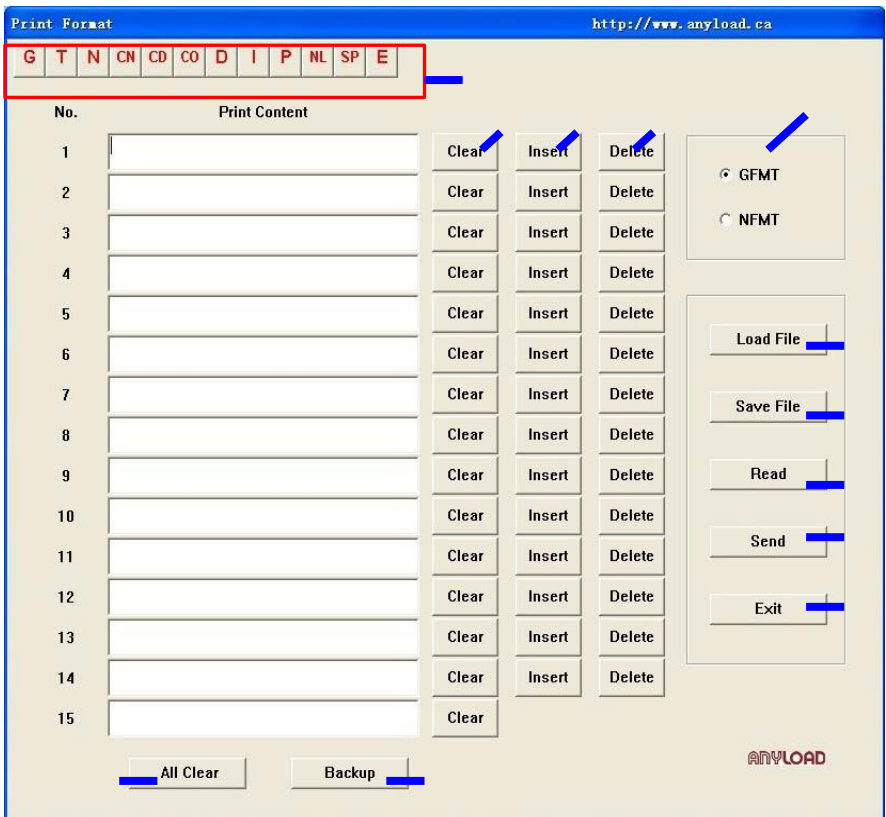

Figure 1.2.2 Set Print Format Interface
**Print Format** - Setting the print format. Click and will enter into the Print Format Interface (see figure 1.2.2).
### 1.2.2 Print Format Interface ( see Figure 1.2.2)